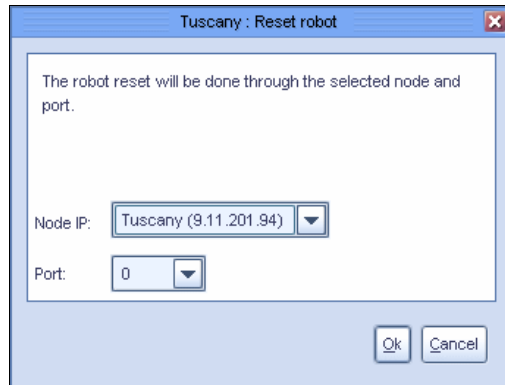

Figure 10-110 Reset robot window
2. Select **VT** → **VT Library** → **Reset robot**. The Reset robot window opens (Figure 10-110).